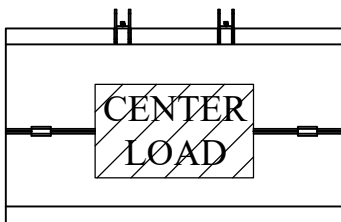

Figure 38: Step 8.
8. To load and use the liftgate, center the load on the platform side to side and front to back (Figure 38). Put heavier loads as close to the front of the platform (near truck) as possible. Platform cart stops may be actuated at this time, if equipped.